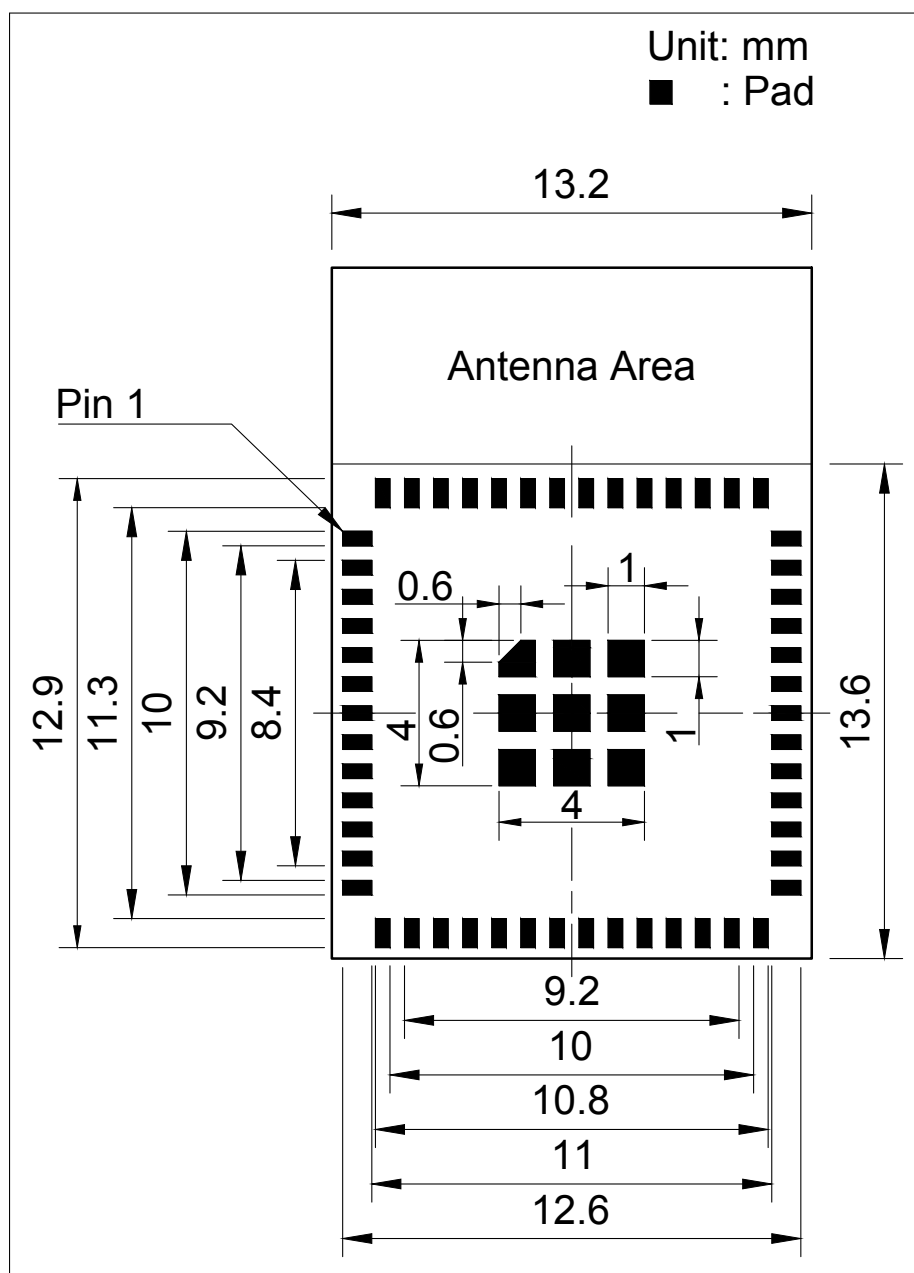
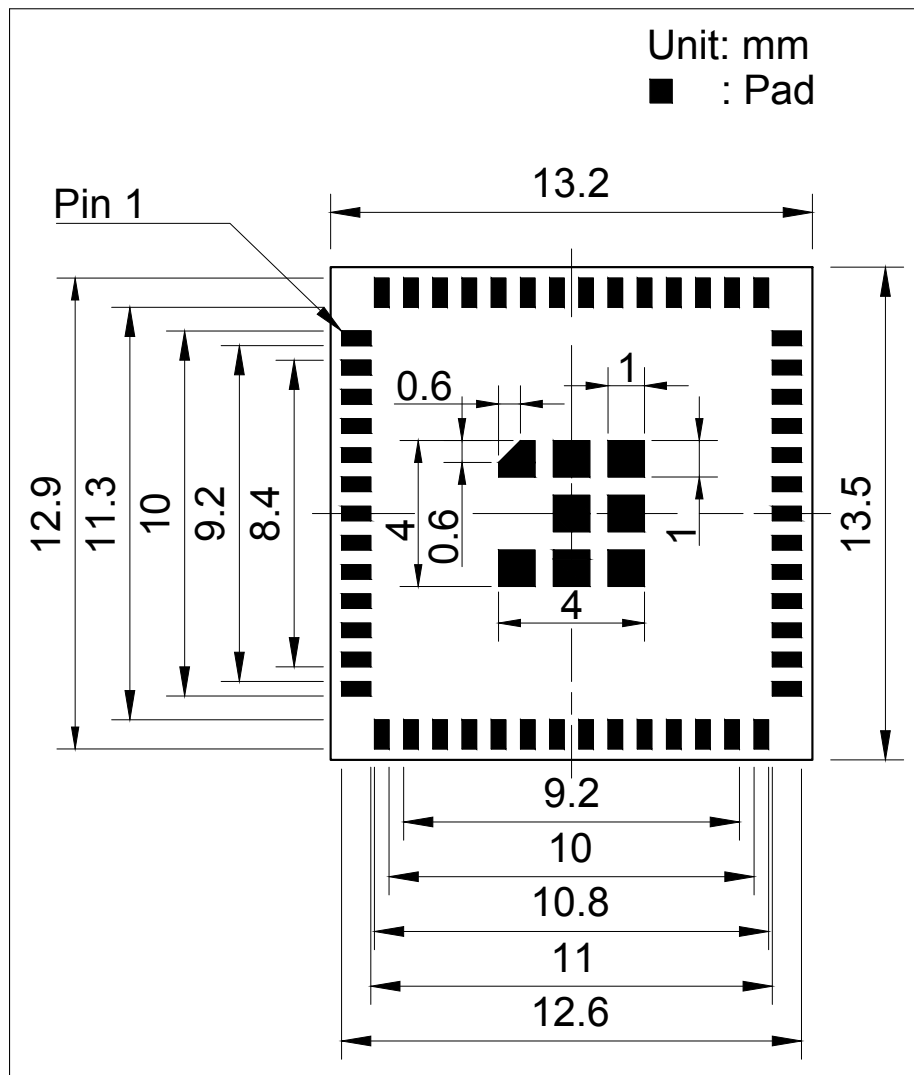

Figure 11: ESP32-MINI-1 Recommended PCB Land Pattern
Figure 12: ESP32-MINI-1U PCB Recommended PCB Land Pattern
- Figures for recommended PCB land patterns with all the dimensions needed for PCB design. See Figure 11 *ESP32-MINI-1 Recommended PCB Land Pattern* and Figure 12 *ESP32-MINI-1U PCB Recommended PCB Land Pattern*.
- Source files of recommended PCB land patterns to measure dimensions not covered in Figure 11 and Figure 12. You can view the source files for ESP32-MINI-1 and ESP32-MINI-1U with Autodesk Viewer.